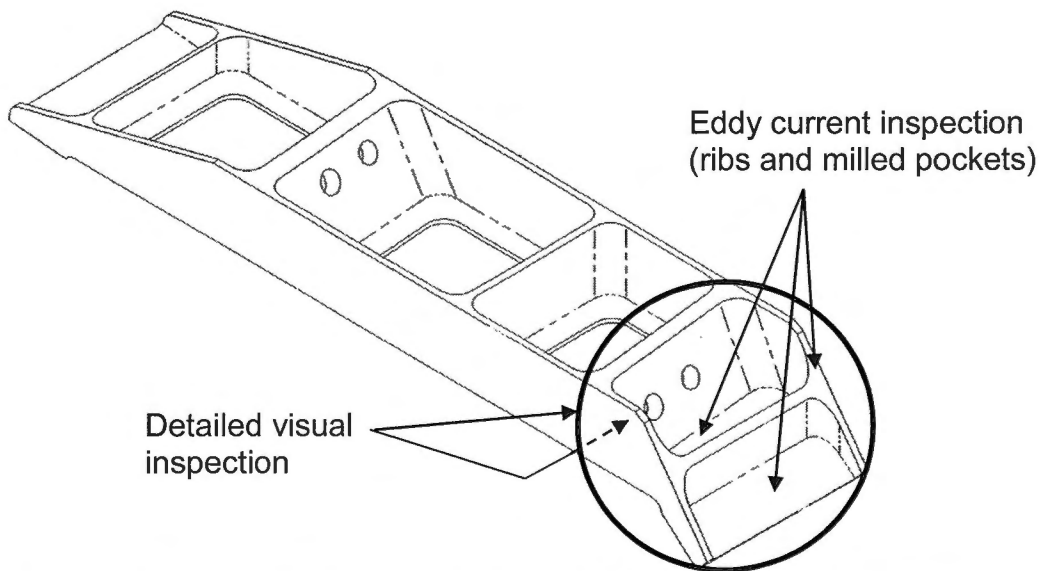

Figure 2: Inspection areas on brackets 001A273A3011200 (shown) and -201 (symmetric).
- (2) Perform eddy current testing for detection of cracks or corrosion according to NTM 51-25-60 on areas shown in figure 2 with focus on the outer edges of the ribs and the bottom of the milled pockets.